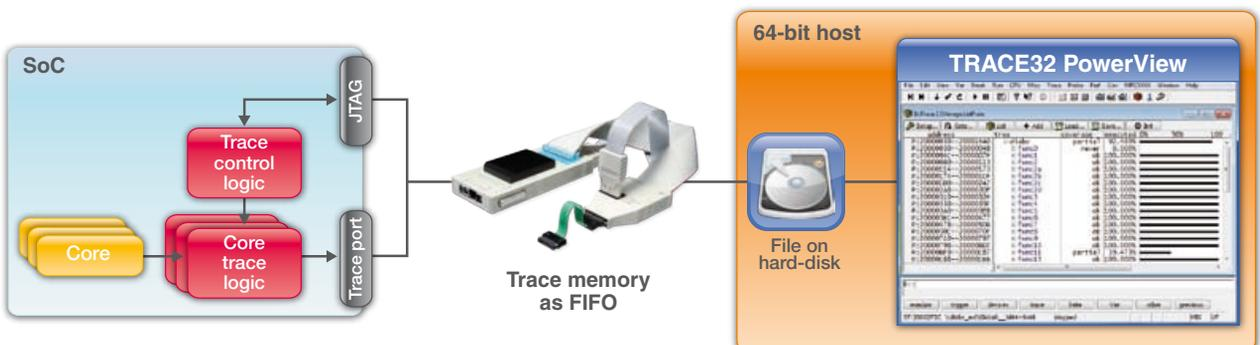

Fig. 8: For the code-coverage analysis, up to 1 TByte of trace data can be streamed to the host computer.
1. The cores which are implemented must have a core trace logic (see figure 8). This logic generates information about the instructions executed by the core. Depending on the operation of the trace logic, information about the task switches and the read/write operations can also appear.